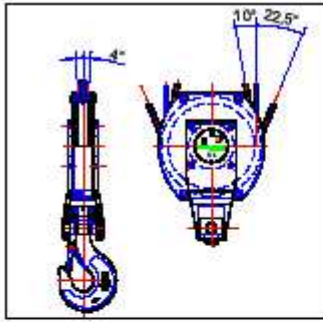
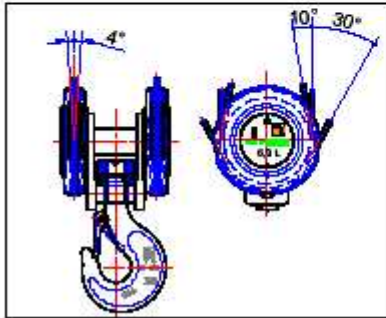

Fig. 4
Fig. 5
- The opening for the rope passage (in the protective case) enables the lifting ropes to be inclined during the raising or lowering of the block to a maximum of 4° as seen from the front, and between 10° and 22,5° as seen from the side for the CUB (fig.4) and between 10° and 30° for the CHA and CHB (fig. 5)